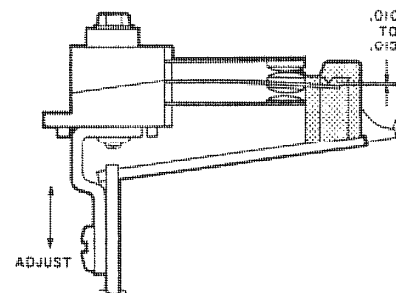

Figure 2
8. Position the movable contact fingers of the contact stack under the shoulder of nylon block (Figure 2).
12. Tighten the 2 contact stack retaining screws (Figure 2).